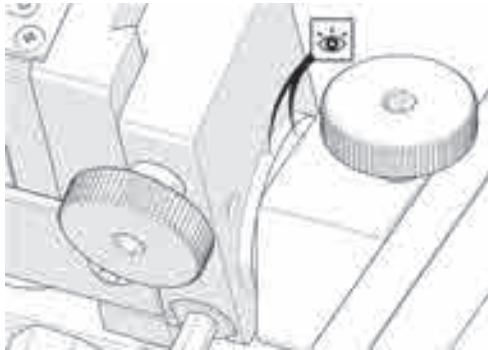

Figure 4-65 Line up markers
5. To return the longitudinal adjustment to neutral (90°), line up the longitudinal adjustment indicator markers (see Figure 4-65 on page 143).